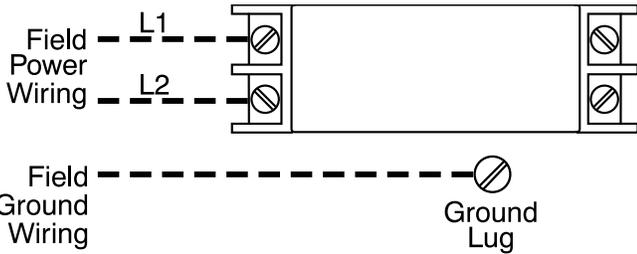
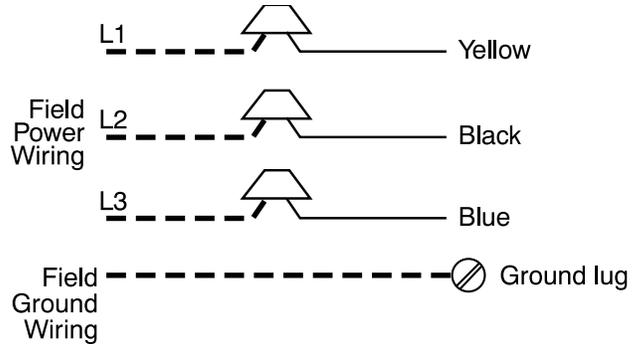

Fig. 7 – 3, 5, 8, 9 10 kW Non-fused Heaters (9 kW is field convertible to 3-phase. See \(Power Connections on p6\)).
Fig. 11 – 15 kW 3-Phase Heater
1. Unprotected heaters: See Fig. 7, Fig. 11, and Fig. 12.